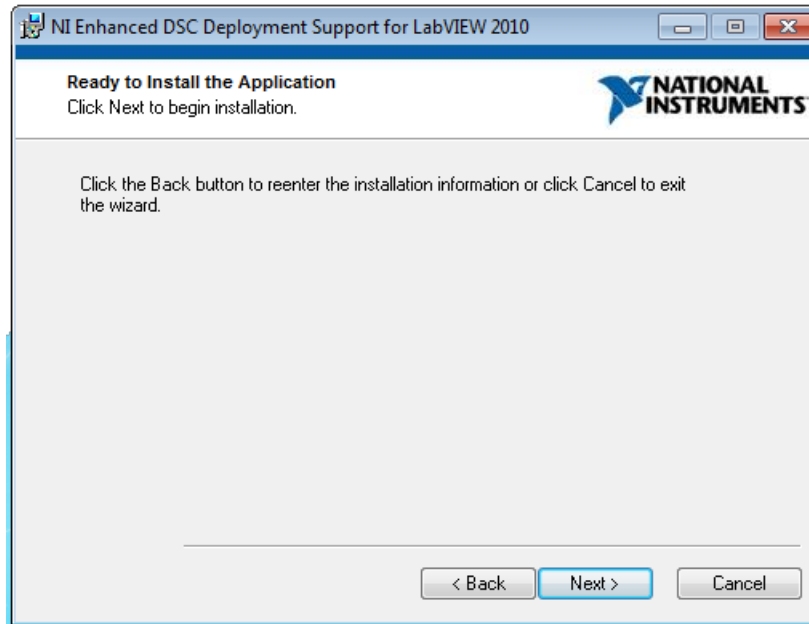

Figure 31. LabVIEW RTE Start Installation
5. The *LabVIEW RTE Start Installation* window (Figure 31) appears, click the *Next >* button to begin installation.